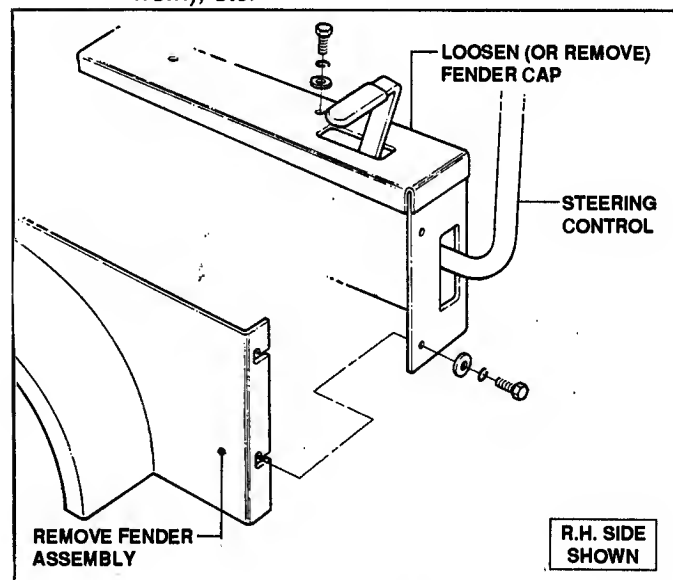

FIGURE 4.12
1. Loosen fender cap, then remove fender assembly from that side of the unit being checked. See Figure 4.12.